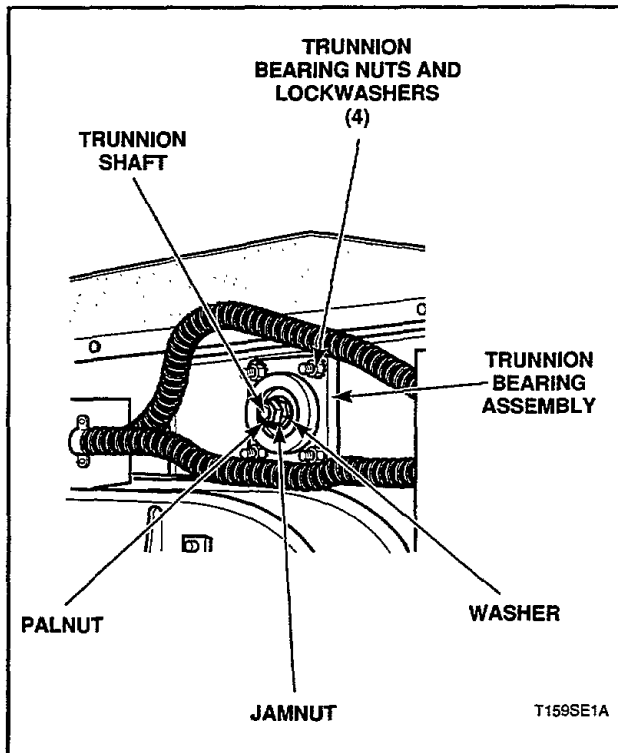

Figure 15
- k. Remove palnut, jamnut and washer from end of trunnion shaft located at rear of unit, *Figure 15*.
**18. TRUNNION BEARING ASSEMBLY (Figure 15)**